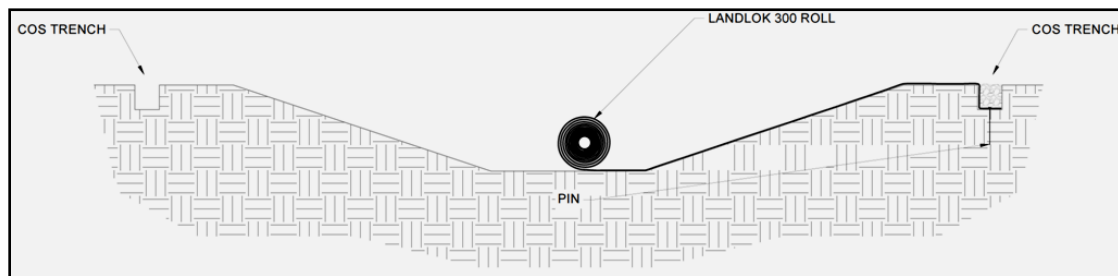

Figure 10: Perpendicular Placement of Landlok 300 across Channel
6. Unroll the Landlok 300 roll on the channel surface in the area to be armored. (Figure 10) Ensure that Landlok 300 has intimate contact with the ground and all irregular surfaces beneath Landlok 300 are removed.